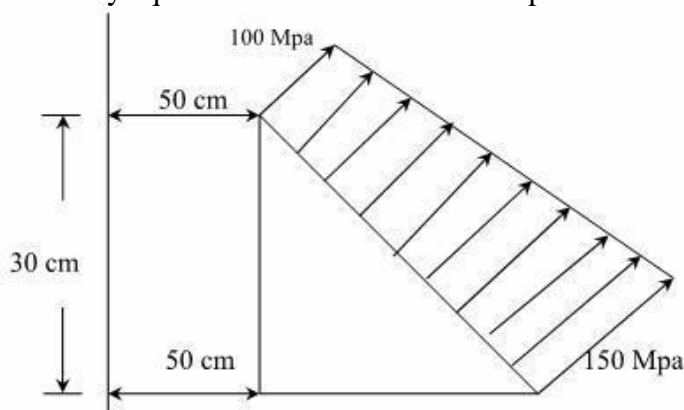

Fig.7
- b) An axisymmetric triangular element is subjected to the loading as shown in fig.7 the load is distributed throughout the circumference and normal to the boundary. Derive all the necessary equations and derive the nodal point loads.